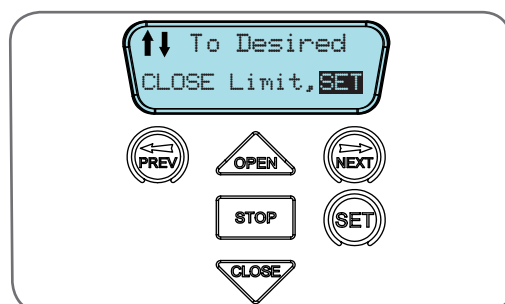

Fig 11.3
- Turn on the power to the opener. The controller will go through a start up sequence. After a short delay the MAIN SCREEN (Fig. 11.3) will be displayed. If this is the first time the GDO-10V3L2 is being used, the MAIN SCREEN should enter into limit set mode and the blue close LED will be flashing. If the display shows that an input is active, then rectify the situation before continuing with the procedure for setting the travel limits. Press and hold the CLOSE button - the door should start closing.